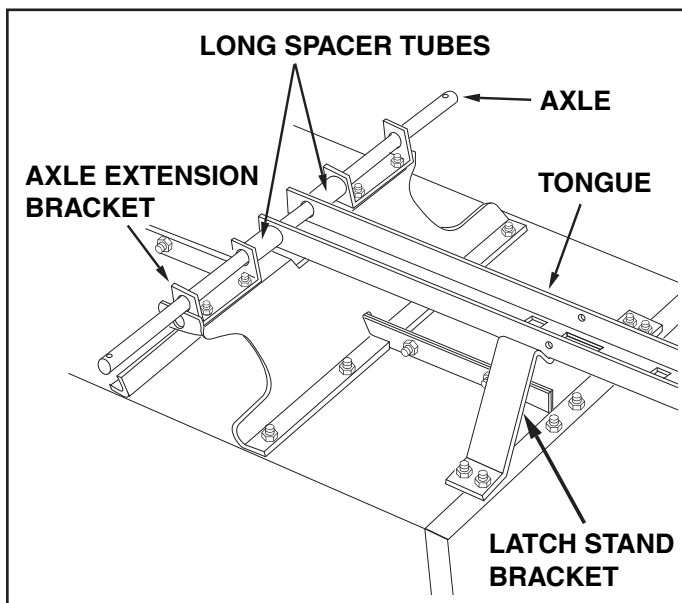

FIGURE 9
16. Place the tongue, open side facing up, onto the wheel support and the latch stand bracket. See figure 9.
17. Place a long spacer tube on each side of the tongue and assemble the axle through the axle extension brackets, the two spacer tubes and the tongue. See figure 9.